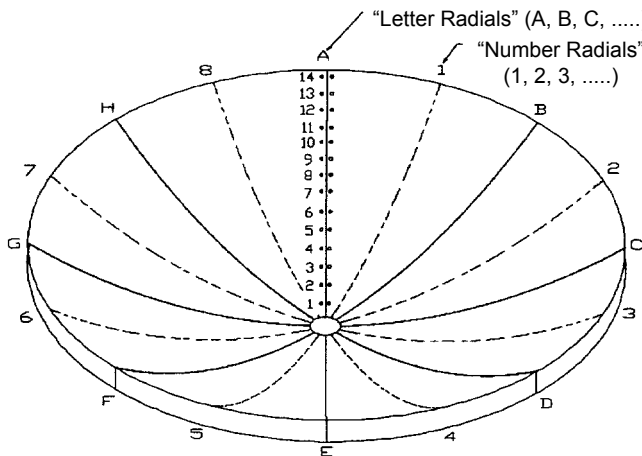

Figure 4-7A
4.7 Begin reflector segment seam hardware tensioning by tightening all the "Number" radials and then by tightening all the "Letter" radials. The "Number" radials are down the center of the 8 panel segments, and the "Letter" radials are on the edges or seams of two adjacent panel segments. Refer to Figure 4-7A.